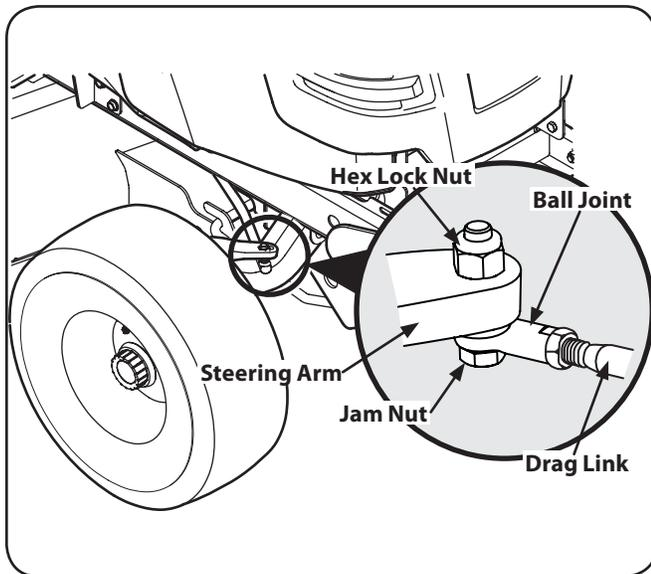

Figure 6-8
- Loosen the jam nuts from the ball joints. See Figure 6-8.
- Disconnect the front ball joints from the steering arms by removing the hex lock nuts. Refer to Figure 6-8. Manually move each wheel to achieve the required toe-in and equal D measurements.